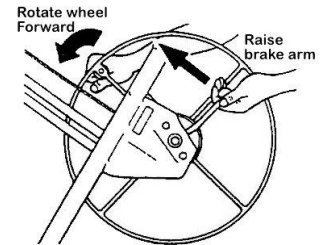

Figure 2
- a) Hold the winch wheel and brake arm (Fig. 2).